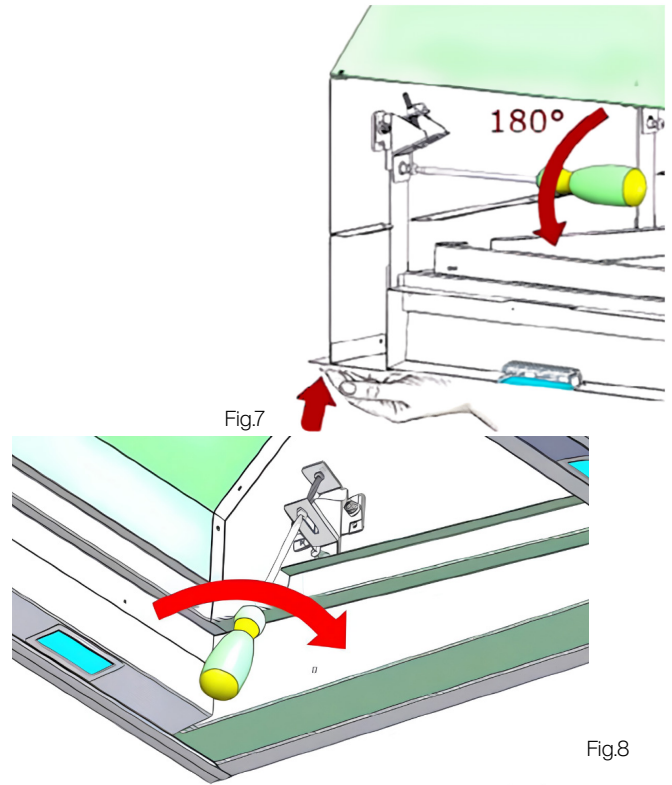

Fig.8
5. Repeat this operation for all four screws (Fig.8).